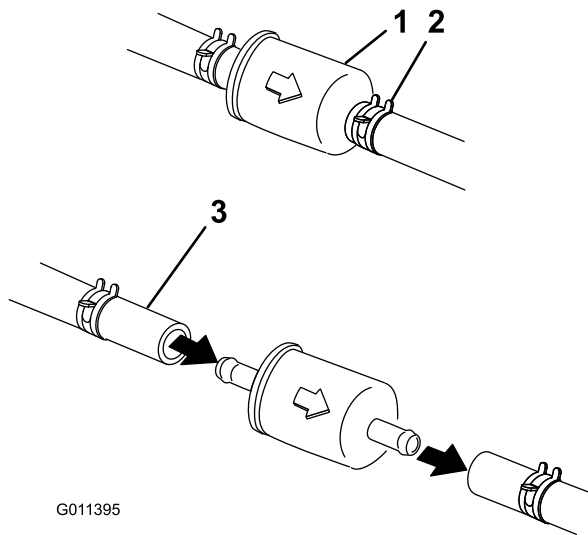

Figure 47
5. Squeeze the ends of the hose clamps together and slide them away from the filter (Figure 47).
7. Install a new filter and move the hose clamps close to the filter (Figure 47).